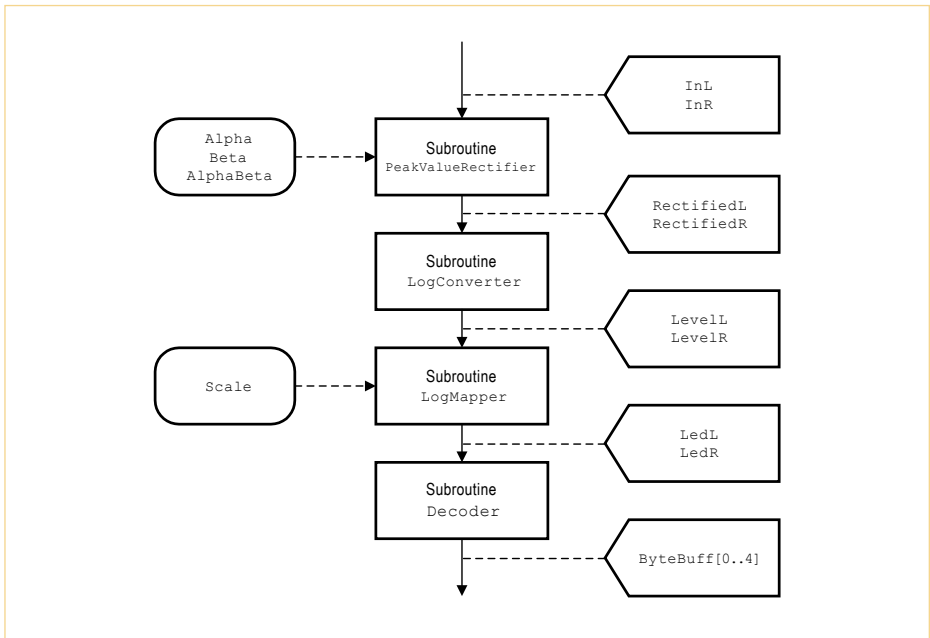

Figure 4. Subroutines and signals in the audio loop.
**Figure 4** shows the audio loop subroutines, their parameters and the signals that flow between them. There is a total of four subroutines, of which only two require parameters.